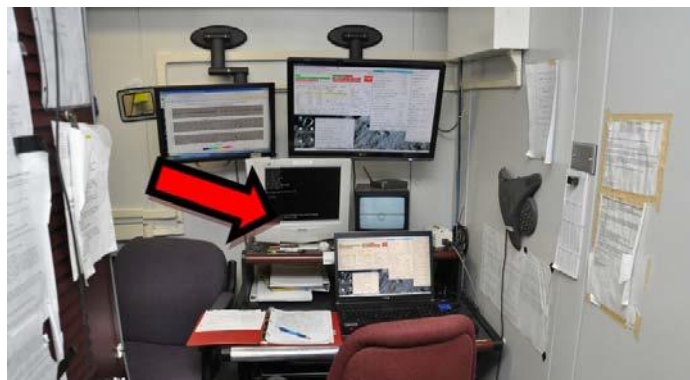

Figure 3-10: Console area showing the DAM/POP Terminal
10. Log into DAM at the DAM/POP terminal – To do this, go to Screen 2 by pressing ALT-F3. Look for the number [2] in the lower left corner of the display to indicate that you are on the right screen (Figure 3-10). Enter the username and password. DAM will begin the login process and start multiple programs that will run in the background.
11. Log into POP at the DAM/POP terminal – After all of DAM's programs have started, the password prompt for POP will show up on the same screen (Figure 3-10). Enter the POP password.